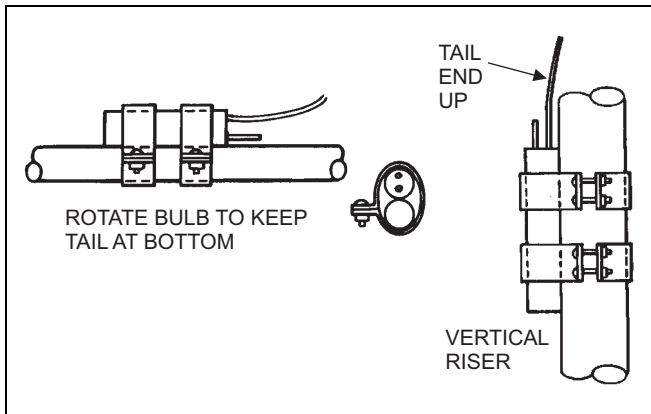
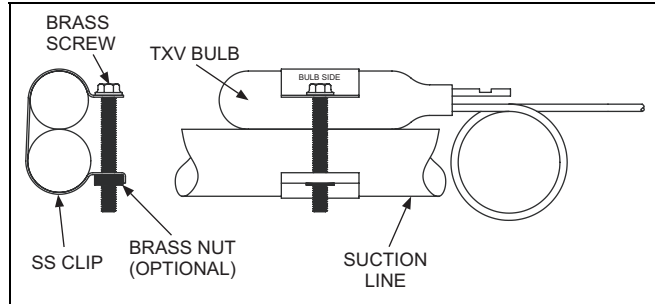

FIGURE 2: Correct Bulb Locations
FIGURE 3: Clamp Attachment for 1TV0705 & 1TV0706
9. Install the TXV bulb to the vapor line near the equalizer line, using the bulb clamp(s) furnished with the TXV assembly. Ensure the bulb is making maximum contact. See Figure 2 for proper bulb location. See Figure 3 for clamp assembly on 1TV0705 and 1TV0706.